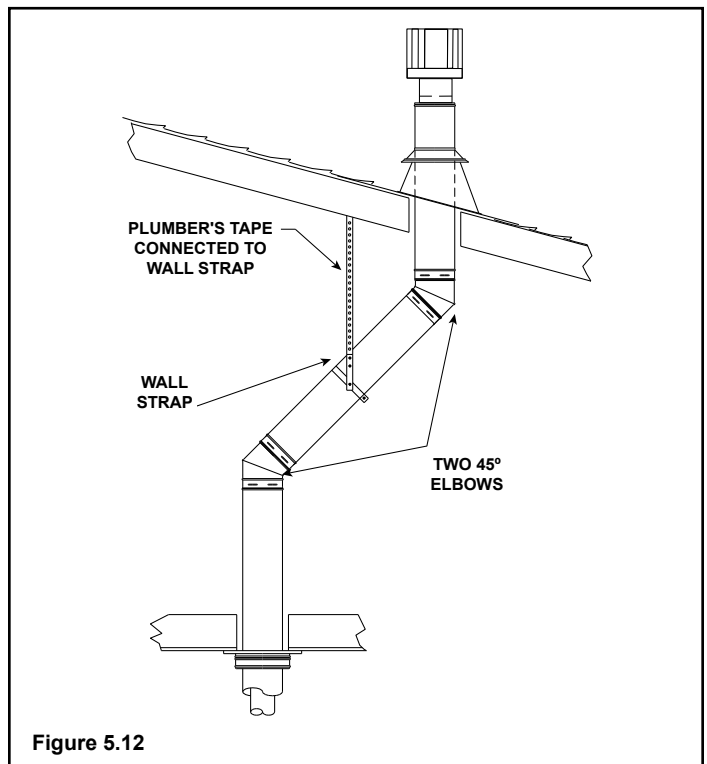

Figure 5.12
2. Set the gas appliance in its desired location. Drop a plumb bob down from the ceiling to the position of the appliance flue exit, and mark the location where the vent will penetrate the ceiling. Drill a small hole at this point. Next, drop a plumb bob from the roof to the hole previously drilled in the ceiling, and mark the spot where the vent will penetrate the roof. Determine if ceiling joists, roof rafters, or other framing will obstruct the venting system. You may wish to relocate the appliance, or to offset, as shown in Figure 5.12 to avoid cutting load bearing members.
- If an offset is necessary in the attic to avoid obstructions, it is important to support the vent pipe every 3 ft. (914 mm) to avoid excessive stress on the elbows, and possible separation. Wall straps are available for this purpose, Figure 5.12, page 16.